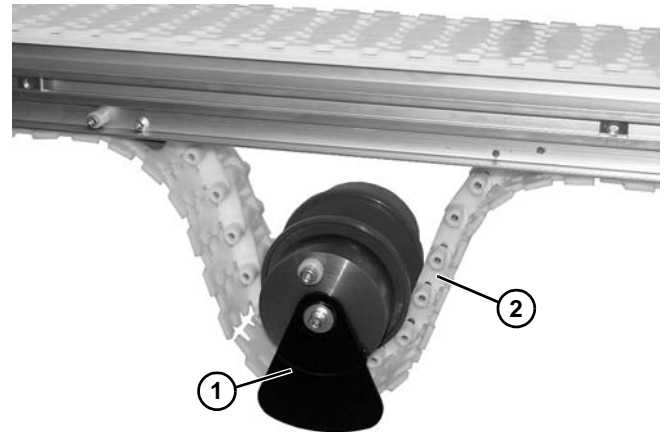

Figure 143
- Install idler pulley assembly (**Figure 143, item 1**) onto conveyor in belt loop (**Figure 143, item 2**).